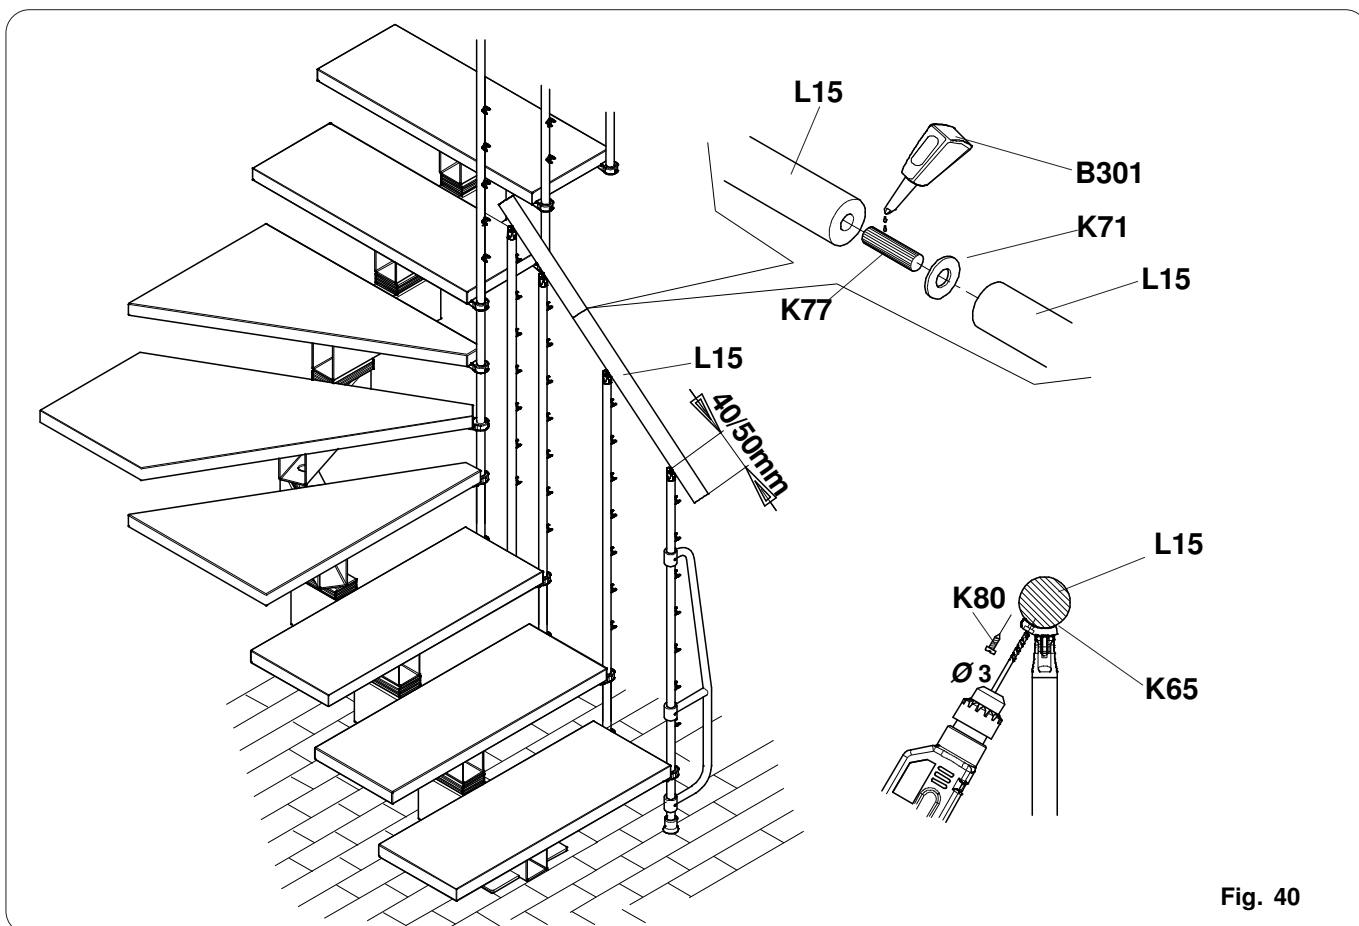

Fig. 40
- Place the handrail on the first support approx. 40-50 mm far from the first column (fig. 40)